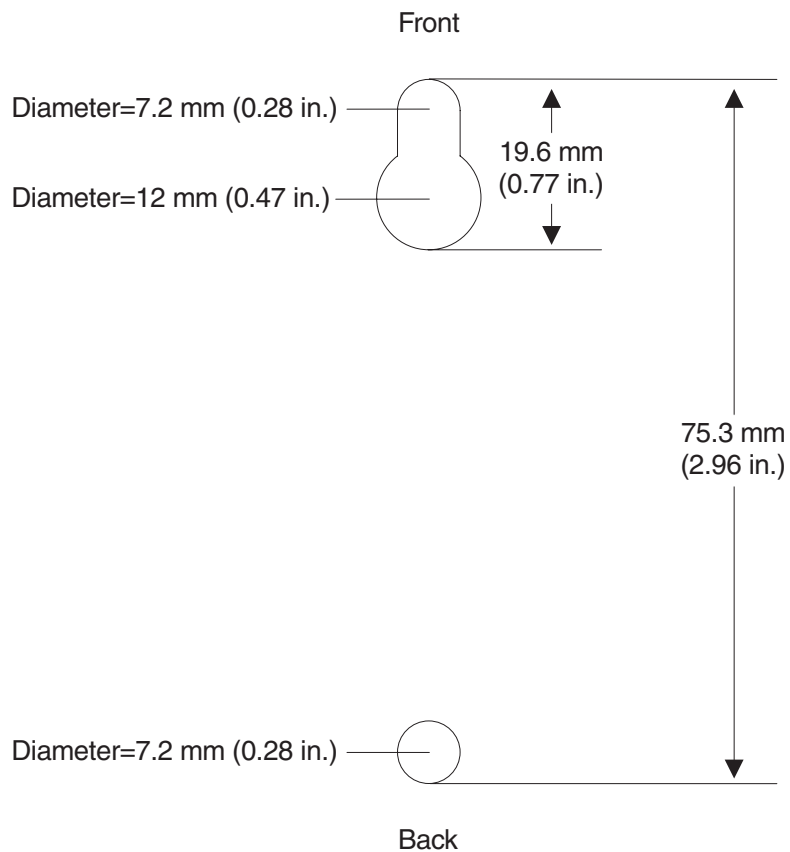

Figure C-2. Free-standing pedestal mounting template
1. Using the template (see Figure C-2 on page C-2) as a guide, mark the screw hole locations for drilling through the counter. Use 8 mm bit, or 5/16 inch bit to drill the four screw holes.
Use the template in Figure C-2 as a guide for mounting the free-standing pedestal.